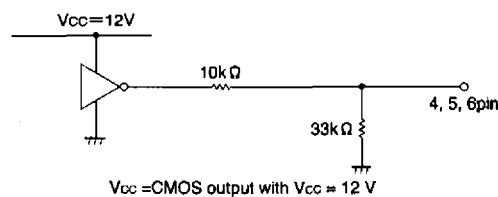

Fig.7
- (1) Though the IC input pins can be directly connected with MOS output pins, it is recommendable to connect resistors of about $3 \sim 30\text{k}\Omega$ between the pins for the sake of pin protection (see Fig. 7).
- (2) When reversing the rotational direction of a motor, make sure to go through the brake mode in-between the opposite directions. It is recommendable to keep the brake mode for at least 10\mu s .
- (3) Powering procedures should be designed so that V_{CC1} (pin 7) always rises first and falls last.